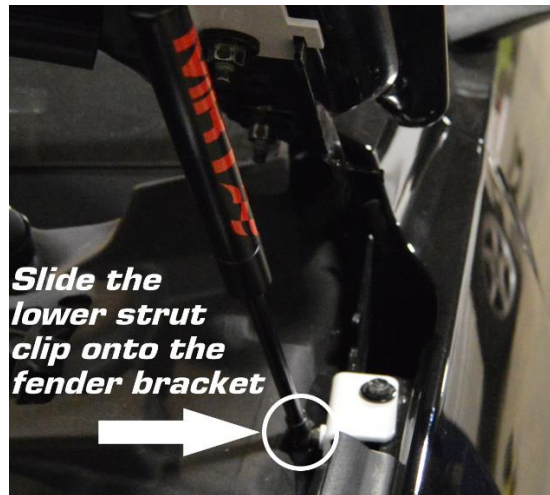

Figure 6
- 9.) Snap the lower side of the cylinder onto the fender first by lining the ball stud on the bracket to the socket of the cylinder, and press it into place. (fig 6)